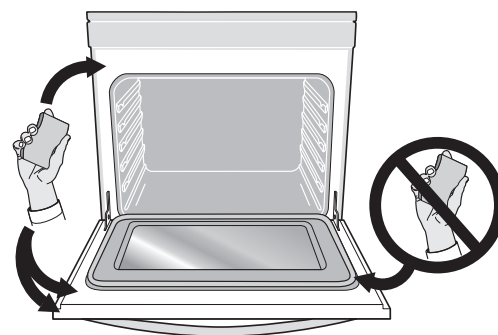

Figure 25: Areas of oven door to clean with caution
- Do not clean the oven door gasket (Figure 25). Do not use any cleaning materials on the oven door gasket. Doing so may damage the gasket. The woven material of the oven door is essential for a good seal. Care should be taken not to rub, damage or remove the door gasket.